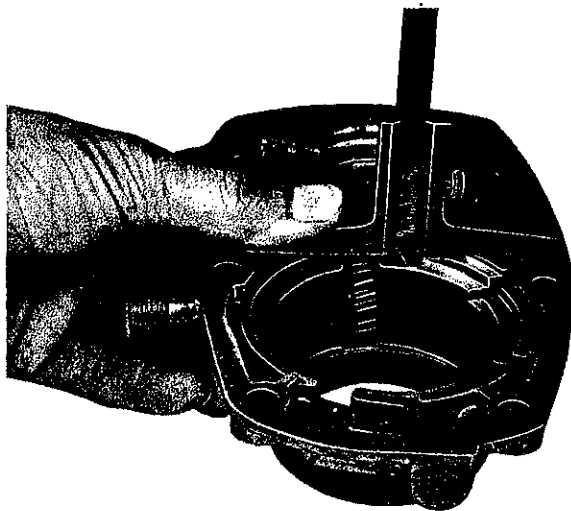

Fig. 54
4. Determine distance from sealing surface of tachometer cover (802) up to smaller (lower) recess (Fig. 54). The difference of the two dimensions less 0 to 0.1 mm end play (while trying for dimension 0.0) provides the thickness of the compensating washers (801) to be placed into recess of tachometer cover. Compensating washers are available 0.4, 0.5, 0.6, 0.7 and 0.8 mm thick. Force shaft sealing ring (804) with sealing lip inwards into tachometer cover.